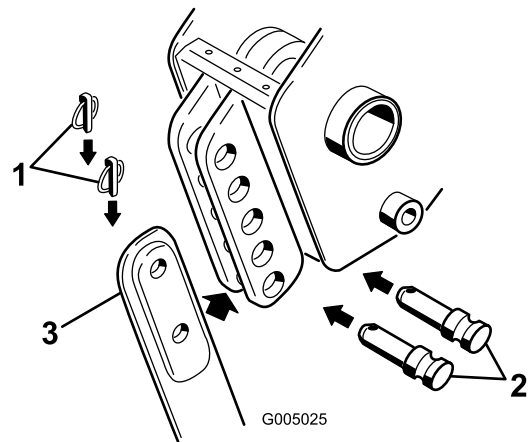

Figure 4
3. Remove the two click pins from the clevis pins in the blade bracket, then remove the clevis pins (Figure 4) and the existing blade (if installed).
4. Slide the new blade into the blade bracket and secure it at the desired depth (a change in mounting holes will change the depth by 3 inches (7.6 cm)), using the clevis pins and click pins removed previously (Figure 4).
2. Remove the lower click pin and clevis pin securing the blade to the plow (to completely remove the blade, remove both the upper and lower click and clevis pins) (Figure 4).